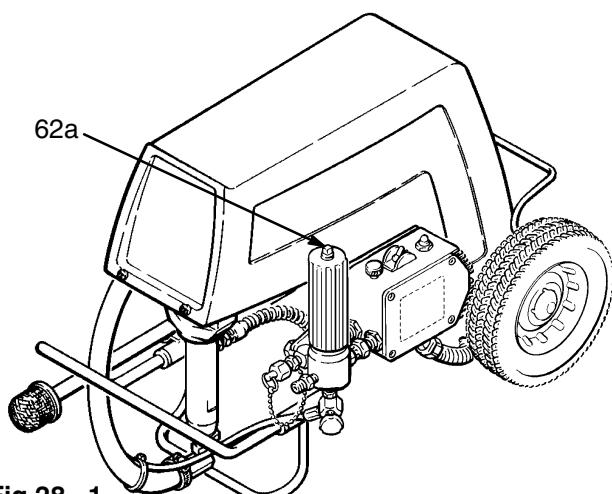

Fig 28-1
2. Refer to the above list of tools and equipment needed. Remove the plug (62a) from the top of the fluid filter and install the fluid-filled pressure gauge. Refer to Fig 28-1. Connect the gun to the **new** test hose and connect the hose to the sprayer outlet.